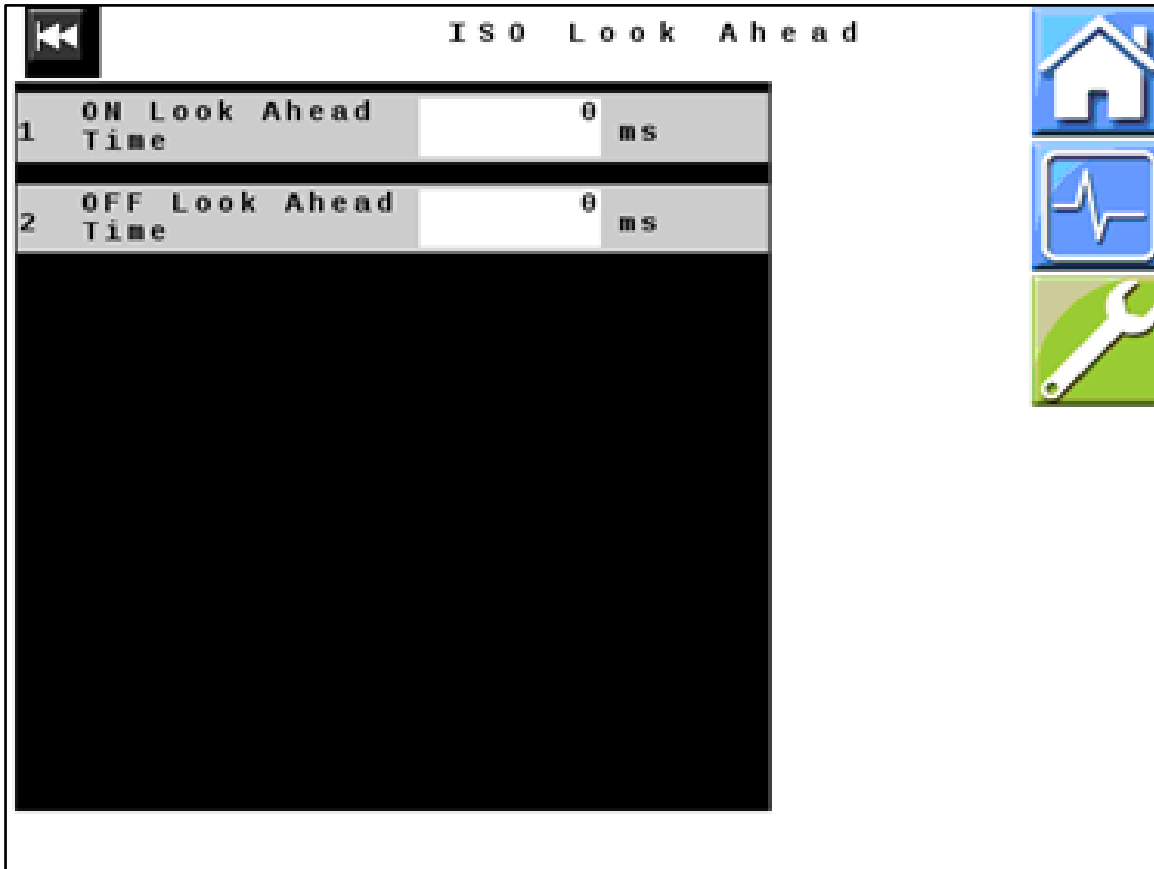

Figure 22 — ISO Look Ahead
39. Figure 22: Verify that all values displayed on your unit match those shown here. Change values if necessary.